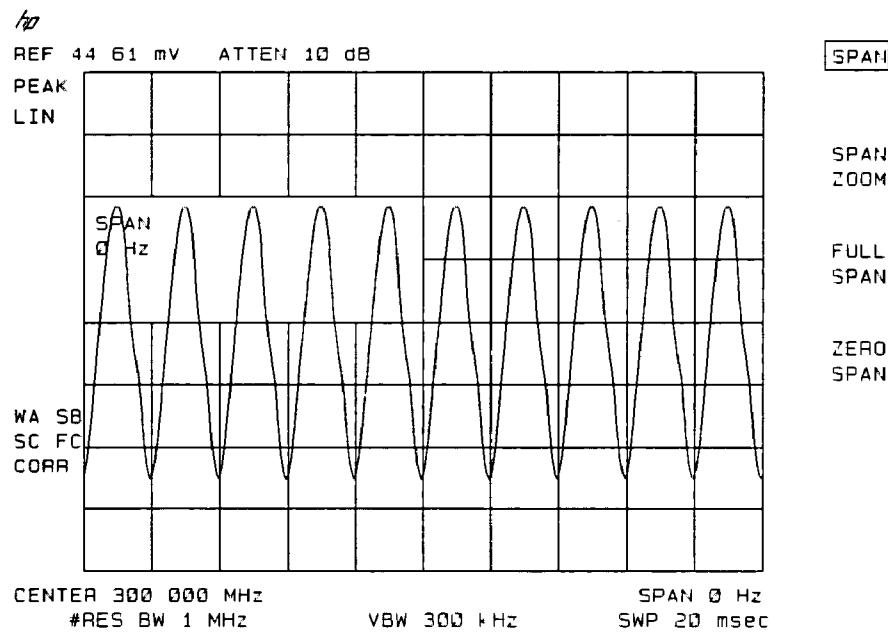

Figure 6-29. Measuring Modulation In Zero Span
5. To select zero span, press **SPAN**, 0 **Hz** or **ZERO SPAN**. See Figure 6-29. If the modulation is a steady tone (for example, from a signal generator), use video trigger to trigger on the waveform and stabilize the display. Adjust the sweep time to change the horizontal scale.